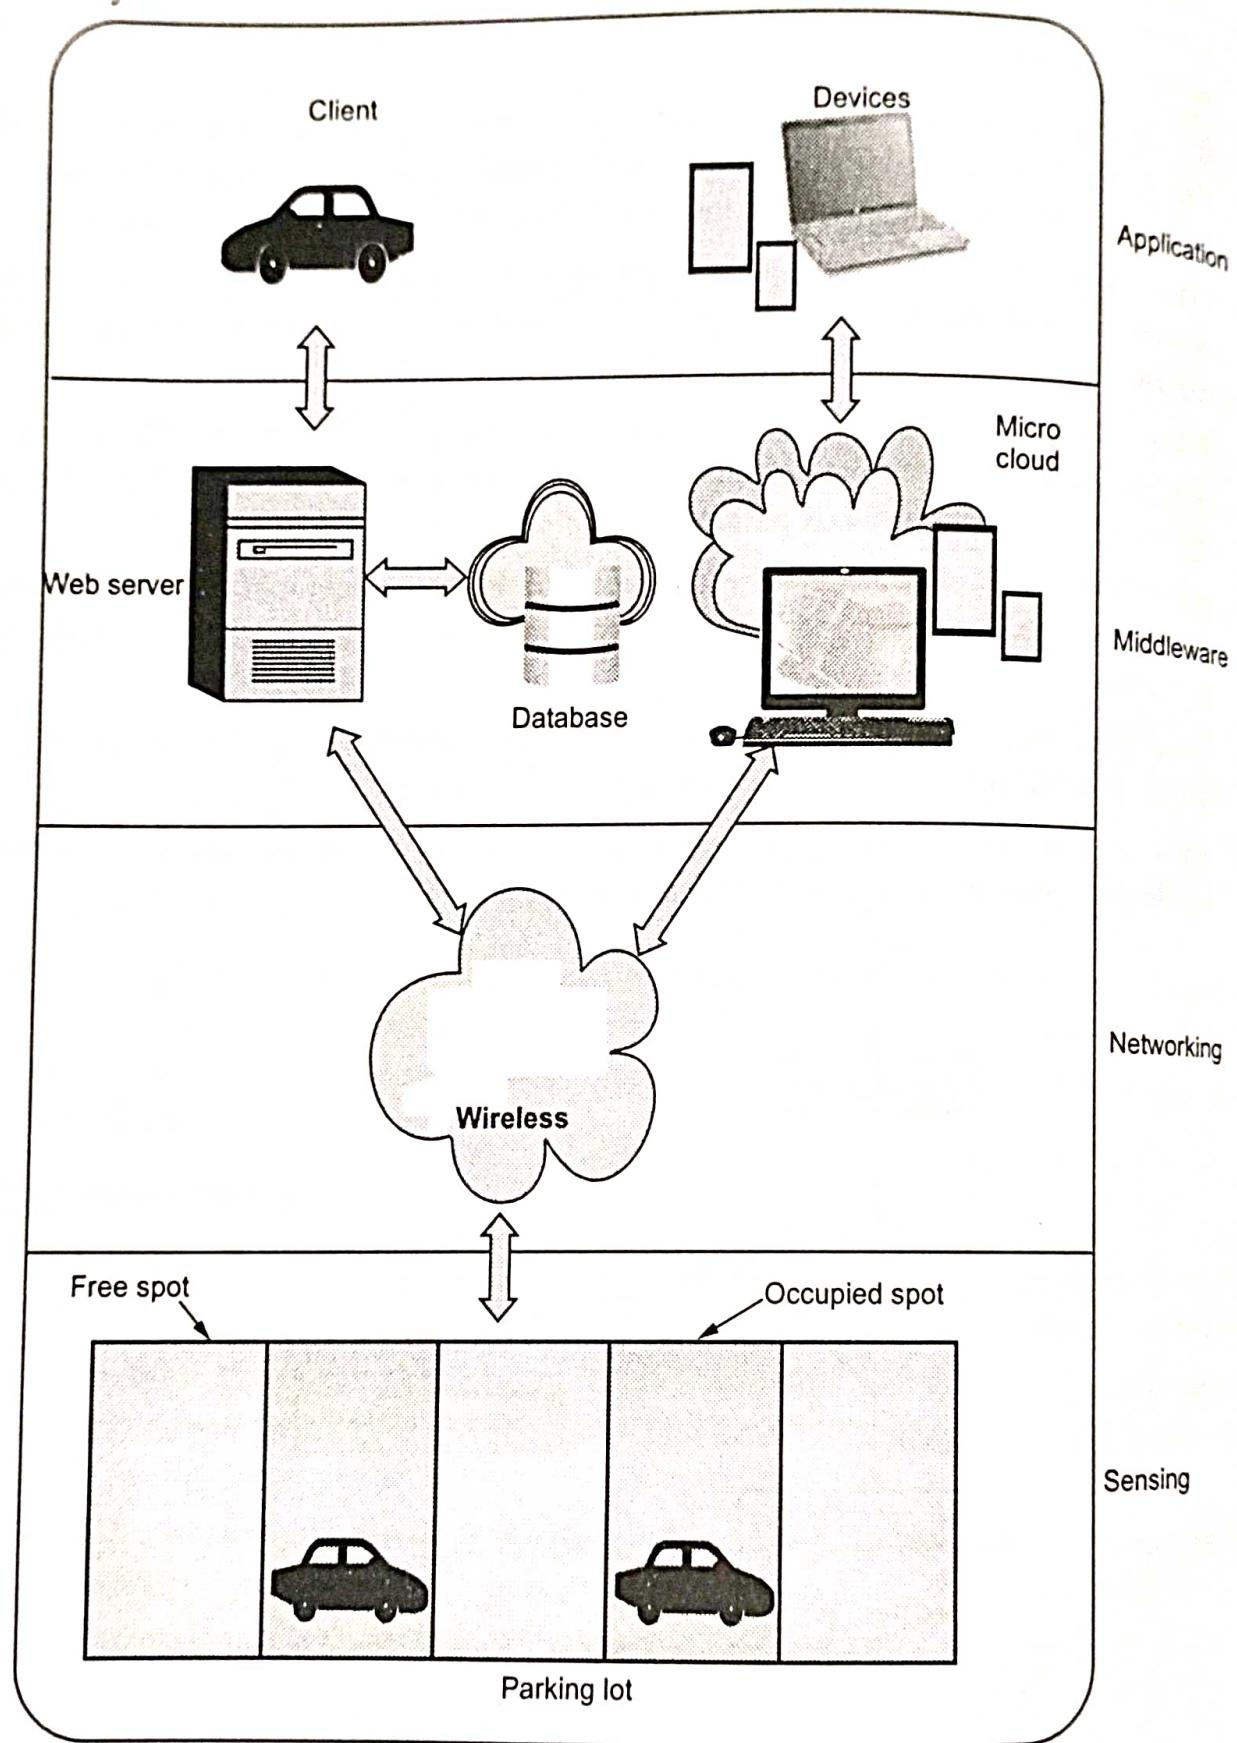

Fig. 4.6.3
- Fig. 4.6.3 includes four layers : A sensing, networking, middleware and application layer.